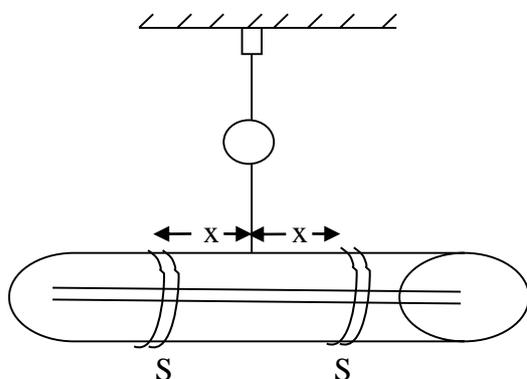

Figure 1
The Maxwell's needle with two solid cylinders can be used for the purpose of verifying the theorem of parallel axis. The two weights are symmetrically placed in the tube on either side of the axis of rotation and their positions are noted down on the scale engraved by the side of the groove on the hollow brass tube as shown in figure 1. The time period of the torsional oscillations is now determined.
- (i) We place two solid cylinders symmetrically on either side in the hollow tube of Maxwell's needle and note down the distance x of their centre of gravity from the axis of rotation as shown in figure 1.